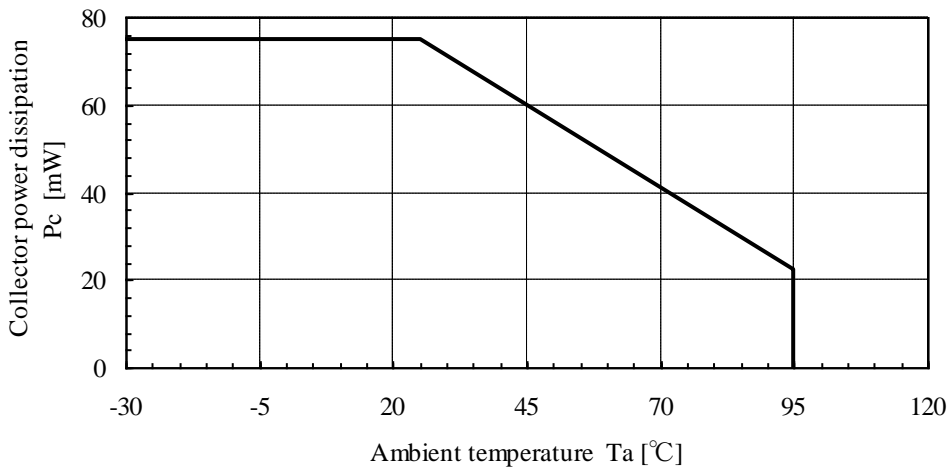

Fig.3 Peak forward current vs. duty ratio
<Fig 3>
- 3) Seal packing case with Kraft tape. <Fig.3>
Country of origin <Fig.3>